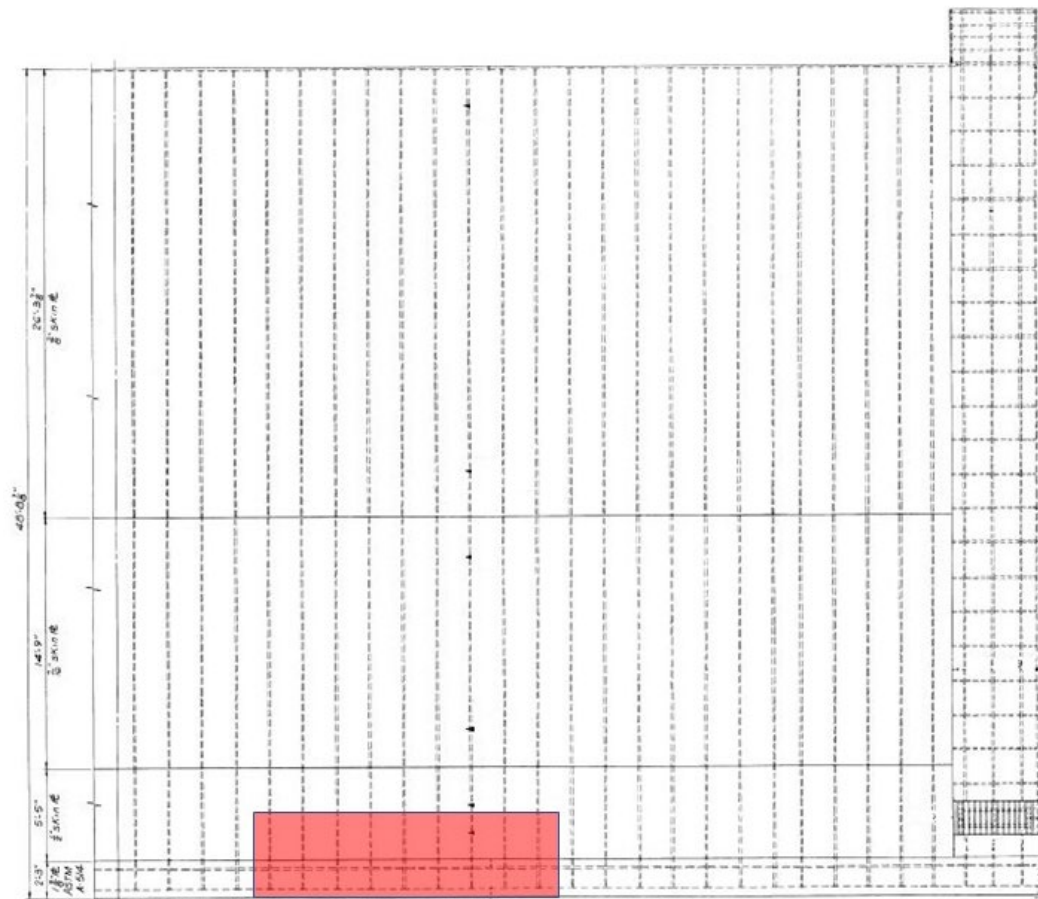

Figure 1 – Gate 5 Upstream Elevation, Missouri Side of Gate (shaded area indicates location of skin plate assembly damage)
- b. Tainter Gate #5. The impact caused a perforation and deformation of the skin plate assembly at the bottom edge of the gate (Figure 1, Photo 3 and Photo 6); the skin plate assembly at the bottom edge of the gate consists of the 1/2" skin plate, 1 3/8" bottom plate, and 1" vertical plate (Figure 2). The start of the deformation in the skin plate assembly is located approximately 28' from the Missouri end of the gate. The deformation in the skin plate assembly is over an